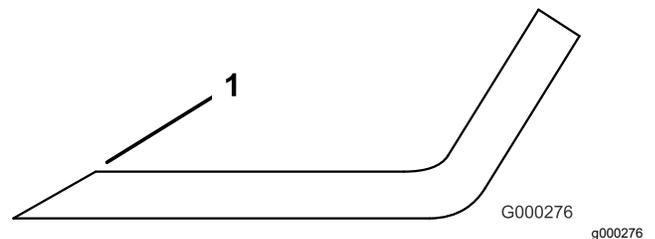

Figure 87
3. Examine the cutting edges of all of the blades and sharpen the cutting edges if they are dull or nicked (Figure 87).
Note: Sharpen only the top of the cutting edge and maintain the original cutting angle to ensure sharpness (Figure 87). The blade remains balanced if you remove the same amount of metal from both cutting edges.